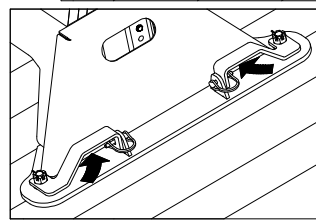

Figure C2:
- Prepare to adjust latch tension.** Once the base is in place, remove the cotter pins from each of the four castle nuts. Engage the cams with each attachment point by turning the latch handles back to their locked position, see Figure C2. If a handle will not turn easily, loosen the castle nut until the cam will freely turn and engage the attachment point.